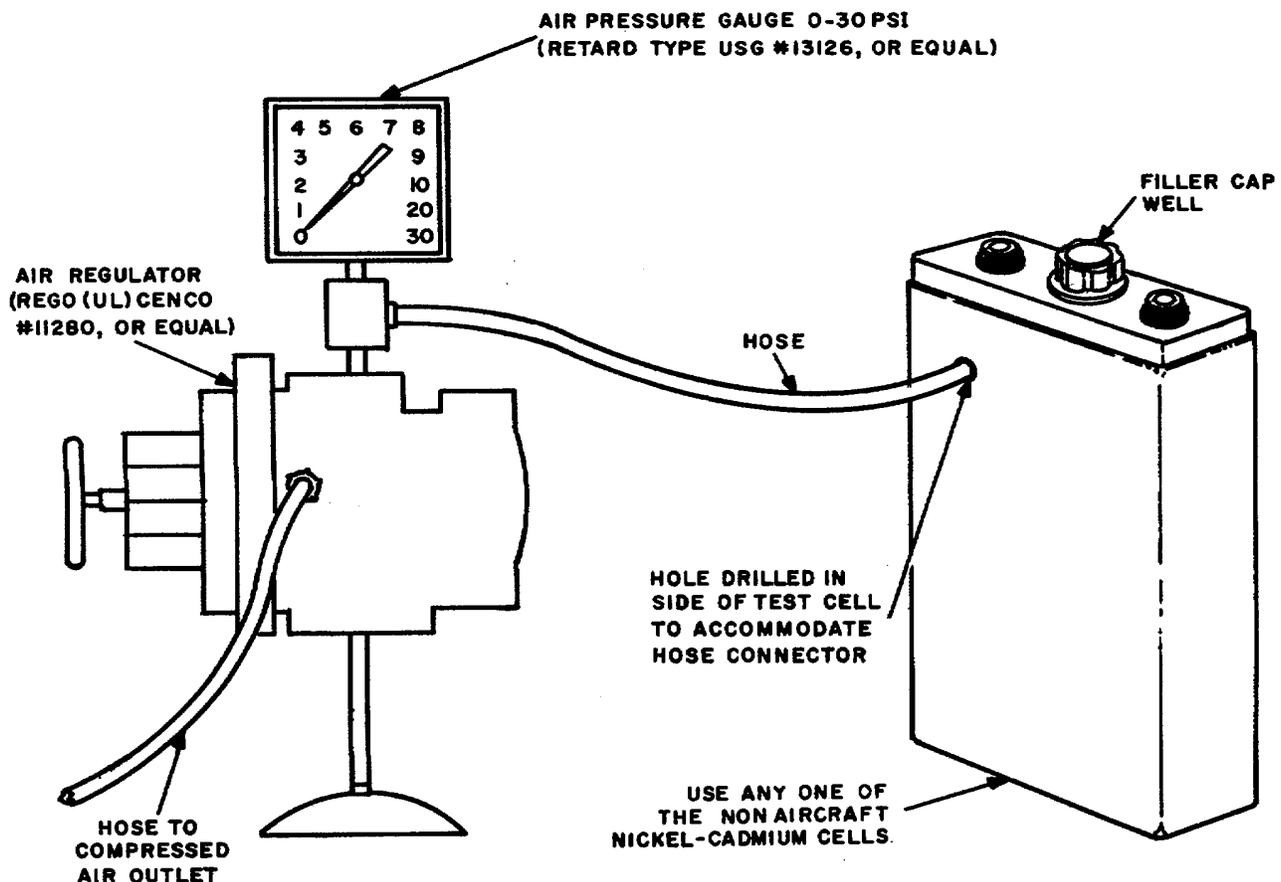

Figure 5-7. Fabrication Diagram for Fillercap Vent Valve Tester
a. Fabricate the fillercap vent valve tester as shown in figure 5-7. (Use a test cell that has been flushed clean and is empty of electrolyte.)